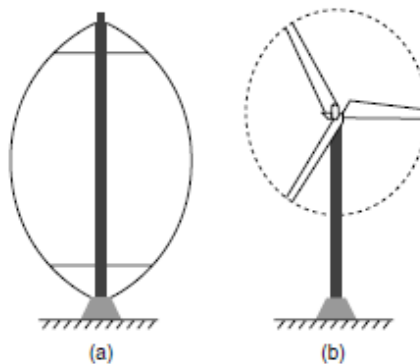

Figure 6.8 Wind rotor configurations (a) Vertical axis (b) Horizontal axis
The basic wind energy conversion device is the wind turbine. Although various designs and configurations exist, these turbines are generally grouped into two types depending on the position of the rotor axis. Figure 6.8 illustrates the two types of turbines and typical subsystems for an electricity generation application.
1. In vertical-axis wind turbines (VAWT), the axis of rotation is vertical with respect to the ground (and roughly perpendicular to the wind stream), as shown in Figure 6.8(a). The following are the two main types of VAWT:
2. Horizontal-axis turbines, in which the axis of rotation is horizontal with respect to the ground (and roughly parallel to the wind stream), as represented in Figure 6.8(b). Horizontal-axis wind turbines (HAWT) can be further divided into three types: